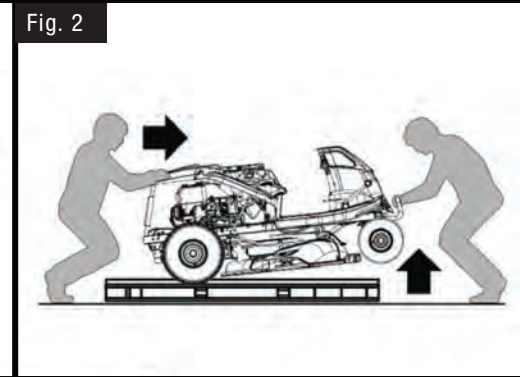

Fig. 2
4. Once the front tires have cleared the pallet, push the mower off the wooden pallet and move it to level ground. Refer to **Fig. 2**.